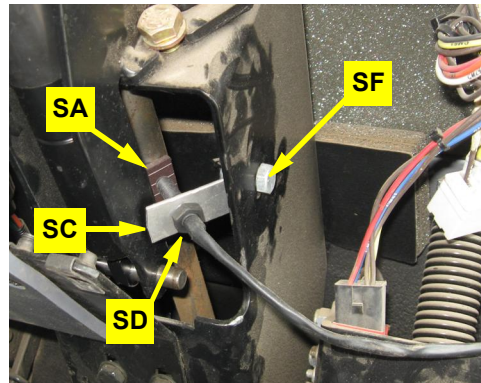

Figure 1d: Installed magnets, switch bracket and sensor
- d. Using the two-part epoxy **SB**, attach magnets **SA** to the steering shaft at 180° apart. Align the center of each magnet with the center of the drilled hole (Figure 1d).
- e. Using hardware **SF**, attach the switch/switch bracket assembly to the steering column. Align the sensor with the magnets and adjust the sensor tip to 1/8" to 1/4" from the magnets (Figure 1d).